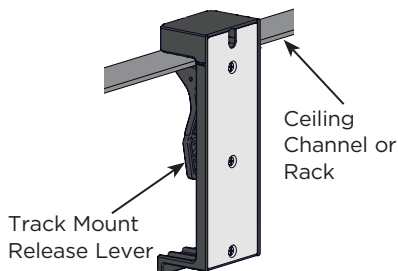

Figure 11
2. Clamp the track mount to ceiling channels, racks, etc., by squeezing the track mount release lever to open the track clip. Slide the track mount assembly onto the channel and release the lever. (Figure 11)